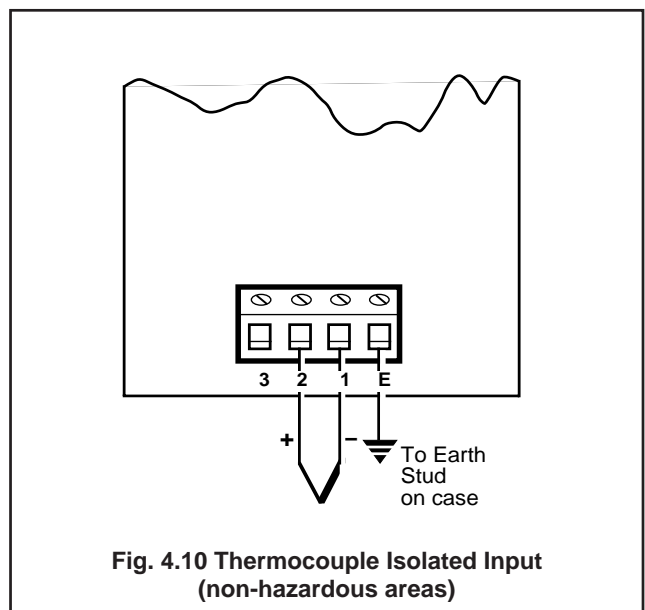

Fig. 4.10 Thermocouple Isolated Input
4.4.3 Thermocouple (THC) Inputs – Figs. 4.10
Make connections as shown in Fig. 4.10.